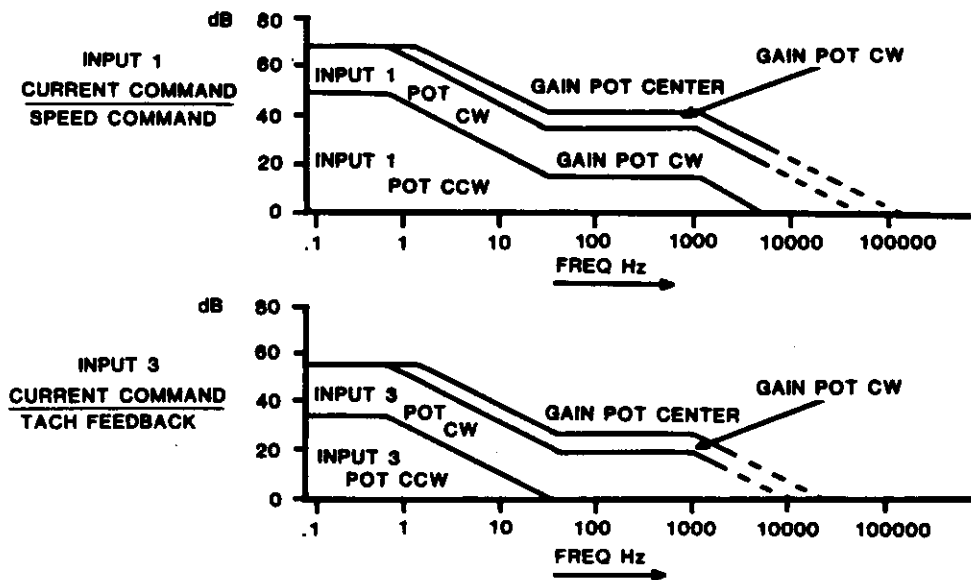

FIGURE 2-7: ELECTRICAL OUTLINE OF PRE-AMPLIFIER CIRCUIT WITH OPEN LOOP GAIN CHARACTERISTICS
** Tach and speed signal levels can be accepted up to ± 60 volts with changes in pre-amplifier compensation (see figure 2-7).
GAIN POT (P4) This pot provides the means of adjusting the AC gain of the pre-amplifier. Turning this pot CCW increases gain (see also figure 2-7).
BALANCE POT (P5) The balance pot provides the means of cancelling small DC offsets that may be present on the input 1 or (speed) command signal (and the pre-amplifier circuit as well) when the rate (or speed) loop is closed on the pre-amplifier (see also figure 2-7) via the tach connection.
PRE-AMPLIFIER COMPENSATION (R15, R16, R17, R14, C17, R13) Components mounted on standoffs allowing the user to "tailor" specific gain parameters of the pre-amplifier circuit. These components do not usually need to be altered by the user under normal circumstances. Usually, the operator need only adjust the potentiometers (just mentioned above) to affect specific gain parameters of the system. A circuit diagram of the pre-amplifier is shown in figure 2-7.
PRE-AMPLIFIER INPUT CONNECTIONS (TB1-1, 2, 3, 4) Speed command input and tach feedback connections are made at these terminals (see figure 2-7 for input gain specifications). The nominal input voltage ranges for input 1, input 2 and input 3 connections are factory set for approximately ± 15 volts. By re-scaling